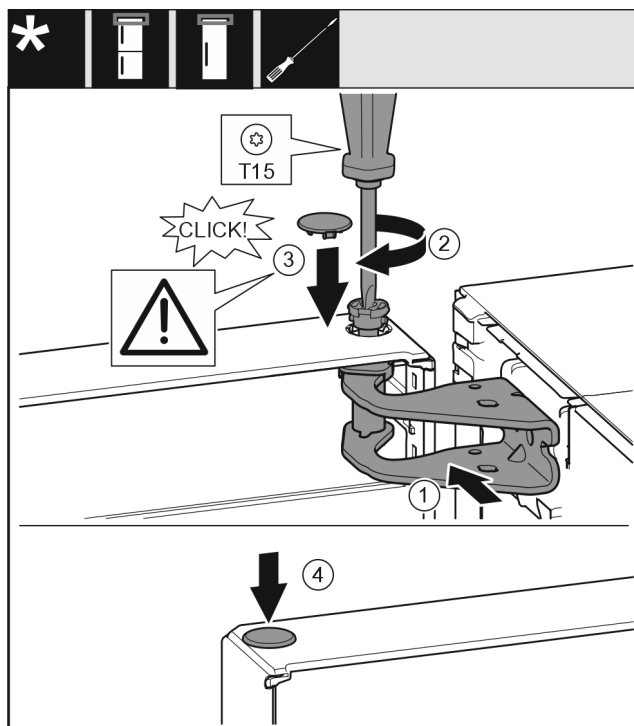

Fig. 22
- Align the top door with the opening in the swap bearing block Fig. 22 (1).
- Insert the bolt Fig. 22 (2) and use screwdriver to tighten it.
- Insert the cover Fig. 22 (3).
- Check that the cover Fig. 22 (3) is resting on the door.
- Insert the cover Fig. 22 (4).